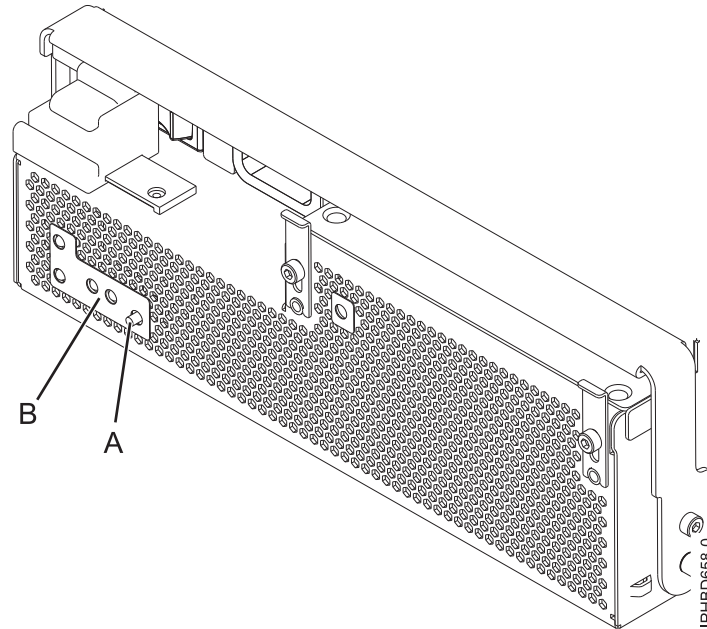

Figure 66. Fan fault LED
Note: If you replaced a power-supply fan as part of this procedure, note the state of the fan fault LED (B) as shown in Figure 66 on page 78. If the LED is off, indicating that both fans are operating